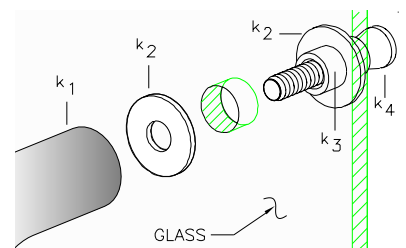

figure 5
14. Install C-pull Handles (K). Slip a Washer (k2) and Sleeve Bushing (k3) onto the C-pull Screw (k4) as shown in Figure 5. Insert it into the glass hole as shown and attach the outside C-pull Handle. Hand tighten the screw and repeat step for bottom portion. When done . . . carefully tighten down assembly with a screw driver. Take inside Handle (see explode view sheet 1) and inserted it onto the C-pull Screw heads as shown. Finish C-pull Handle installation by tightening down the two set screws.